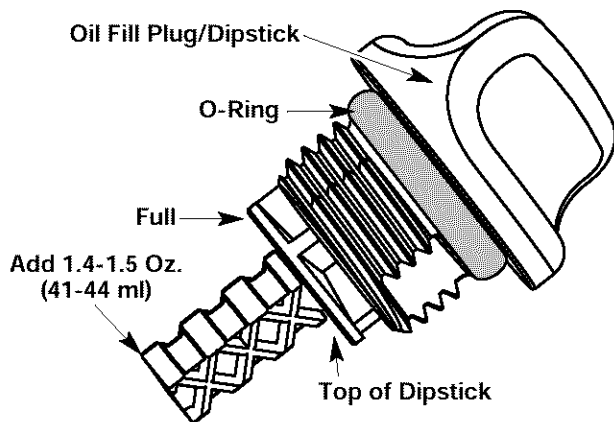

Fig. 16
5. Remove the oil fill plug/dipstick and check the oil level. Oil should be up to the top of the dipstick (Fig. 16).